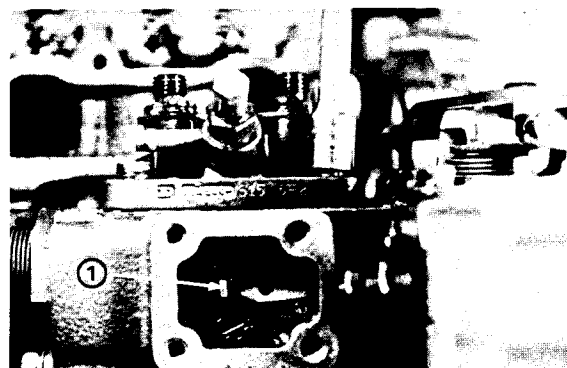

Figure 60b
3. Remove the tie rod cover. Remove the tie rod clip and disconnect the tie rod from the injection pump control rack (Fig. 60b).
4. Remove the four (4) injection pump mounting bolts. Remove the injection pump from the cylinder block. Make a note of the number and thickness of the adjusting shims under the pump. (The shims determine the injection timing.)